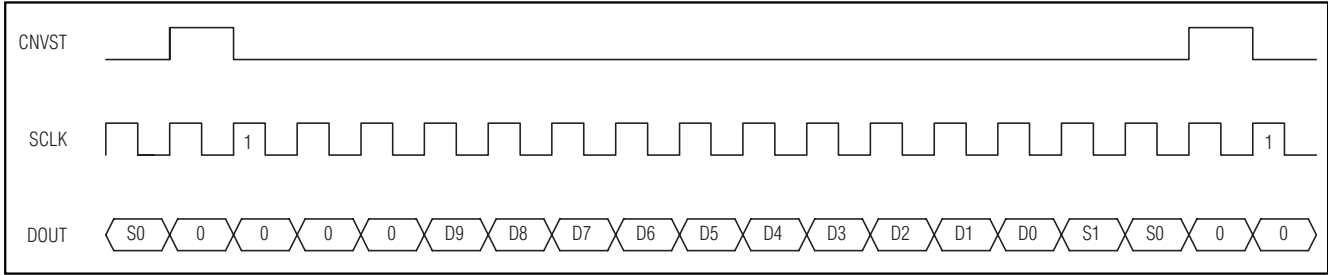

Figure 17. DSP Interface—Continuous Conversion
The MAX1076/MAX1078 can also be connected to the TMS320C54\_ by using the data transmit (DX) pin to drive CNVST and the CLKX generated internally to drive SCLK. A pullup resistor is required on the CNVST signal to keep it high when DX goes high impedance and 0001hex should be written to the DXR continuously for continuous conversions. The power-down modes may be entered by writing 00FFhex to the DXR (see Figures 17 and 18).
can be selected to eliminate the need for writing to the transmit-data register more than once. For single conversions, idle CNVST high and pulse it low for the entire conversion. The ADSP21\_ \_ \_ STCTL and SRCTL registers should be configured for late framing (LAFR = 1) and for an active-low frame (LTFS = 1, LRFS = 1) signal. This is also the best way to enter the power-down modes by setting the word length to 8 bits (SLEN = 1001). Connect the VL pin to the ADSP21\_ \_ \_ supply voltage when the MAX1076/MAX1078 are operating with a supply voltage higher than the DSP supply voltage (see Figures 17 and 18).